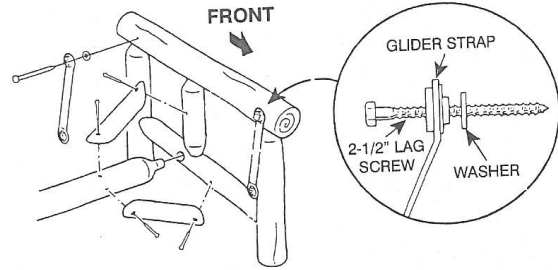

Figure 4
STEP 5 Attach all four glider straps to glider base with the 1/4" x 2 1/2" lag screws into pre-drilled holes. See figure 4.